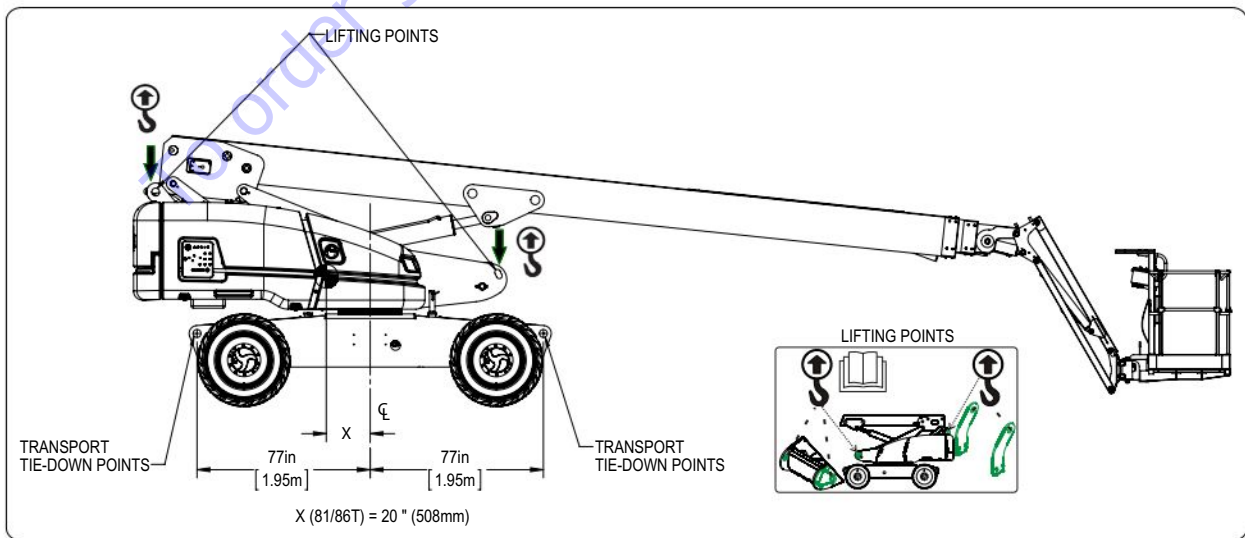

Figure 3-15. Lifting Points
When lifting the aerial platform, lifting devices must be attached to designated lift points only (refer to Figure 3-15).
4. Properly adjust rigging to ensure aerial platform remains level during lifting. See Center of gravity location (Figure 3-15).